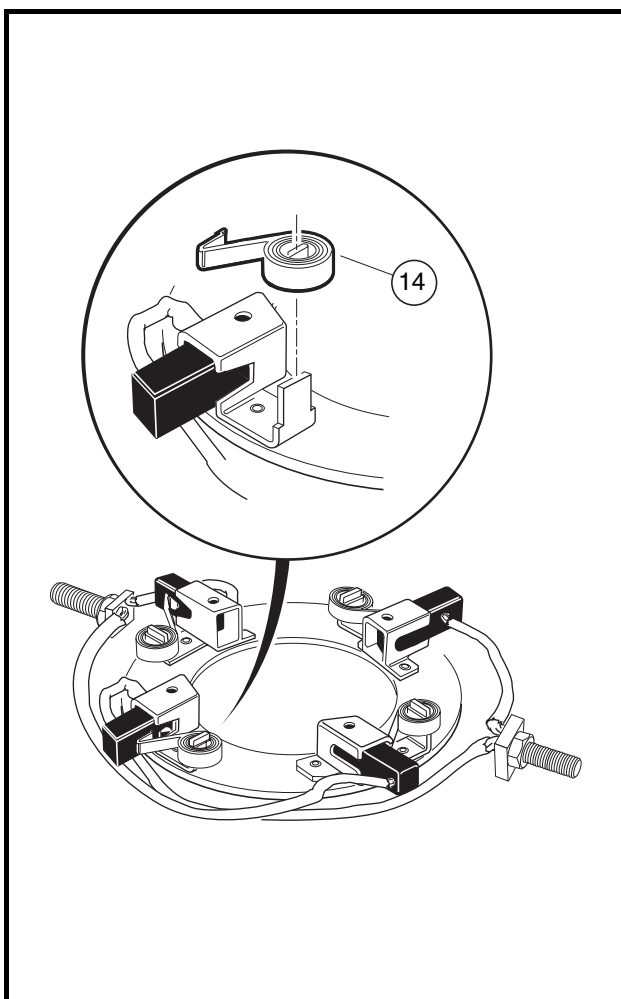

Figure 16-5 Brush Spring Removal
- To remove brush springs (14) from the rigging, lift the spring extensions out and over the brush mounts and then slide the springs off their mounting tabs (**Figure 16-5, Page 16-4**).
- 2.2. One at a time, push brush spring extensions back from brushes and slide the brushes back until they are completely retracted into their mounting slots. Then position the brush springs against the sides of the brushes so that spring pressure will hold them in the retracted position (**Figure 16-5, Page 16-4**).